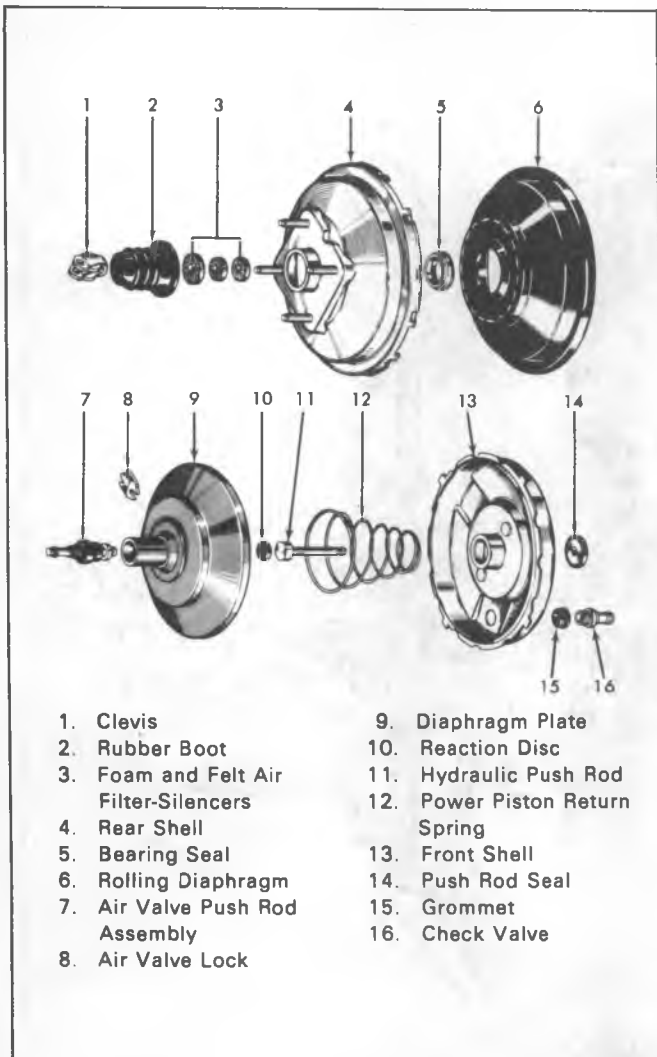

Fig. 2B-Bendix Power Cylinder Components (Typical)
1. Remove master cylinder filter, piston seal assembly and master cylinder push rod from front shell (fig. 2B); pulling the push rod from the front shell will also remove the filter and seal assembly.